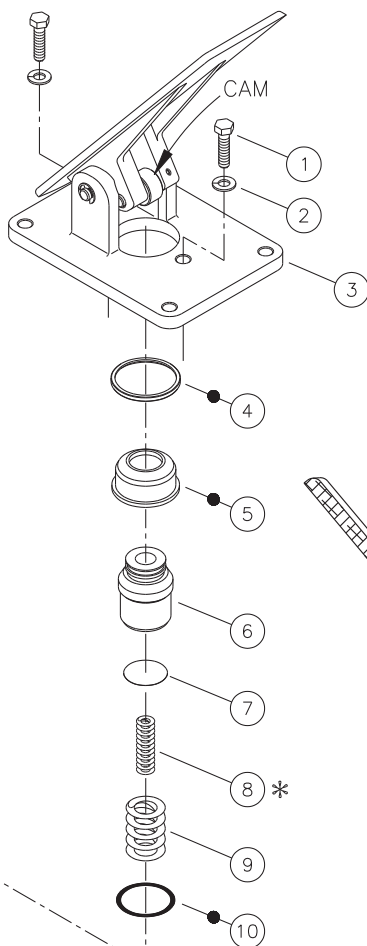

FIGURE 2
(Refer to Figure 2)
1. Separate pedal and base assembly (3) from the valve by removing cap screws (1) and lock washers (2).
2. Remove ring (4) and boot (5) from housing (21).
3. Remove input piston (6), shim(s) (7), spring (8), and spring (9) from housing (21). Note number of shim(s) removed for reassembly purposes. **NOTE: Not all models use spring (8). Piston (6) shown in Figure 2 may appear different than the piston removed from your valve.**
4. Remove o-ring (10) from housing (21). **NOTE: Be careful not to scratch housing bore.**
5. Remove retaining ring (11) and retainer (12) from housing (21). **NOTE: Some models use a flat washer in place of retainer (12). Be careful not to scratch housing bore.**
6. Remove retaining ring (13), piston assembly (14), and spring (20) from housing (21). **NOTE: Be careful not to scratch or mar piston assembly (14) or housing bore.**
7. Separate piston (19) from piston (15). Remove cup (18) from piston (19). Remove o-ring (17) and back-up ring (16) from piston (15). Note order and direction of components.
8. Remove plug (31) from housing (21).
9. Remove o-ring (30), cup (28), and back-up ring (29) from plug (31). Note direction of cup (28).
10. Remove washer (27), spring (26), guide (25), and spacer (24) from housing (21).
11. Remove ball valve assembly (23) from housing (21).
12. Remove o-ring (22) from ball valve assembly (23).
13. Disassembly of pedal and base assembly (3) is not necessary unless it is not working properly. Be sure cam is in good working order and moves freely.
2. Install new spacer (24) into housing (21).
3. Install new o-ring (30) on plug (31).
4. Install new back-up ring (29) and new cup (28) inside of plug (31). Note direction and order of back-up ring (29) and cup (28).
5. Install guide (25), spring (26), and washer (27) in plug (31). Install plug (31) in housing (21) and torque 54.2-67.8 N·m (40-50 lb-ft).
6. Install new cup (18) on piston (19). Note direction of cup (18).
7. Install new back-up ring (16) and new o-ring (17) on piston (15).
8. Install piston (19) in piston (15).
9. Install spring (20), piston assembly (14), and retaining ring (13) in housing (21). **NOTE: Be careful not to scratch piston assembly (14) or housing bore.**
10. Install retainer (12) and retaining ring (11) in housing (21). **NOTE: Some models use a flat washer in place of retainer (12). Be careful not to scratch housing bore.**
11. Install new o-ring (10) in housing (21).
12. Install spring (9), spring (8), shim(s) (7), and input piston (6) in housing (21). Be sure to install the same number of shim(s) as were removed during disassembly. **NOTE: Not all models use spring (8). Input piston (6) shown in Figure 2 may appear different than the piston removed from your valve.**
13. Install new boot (5) and new ring (4) on housing (21).
14. Attach pedal and base assembly (3) to valve using cap screws (1) and lock washers (2). Torque cap screws 29.8-36.6 N·m (22-27 lb-ft).